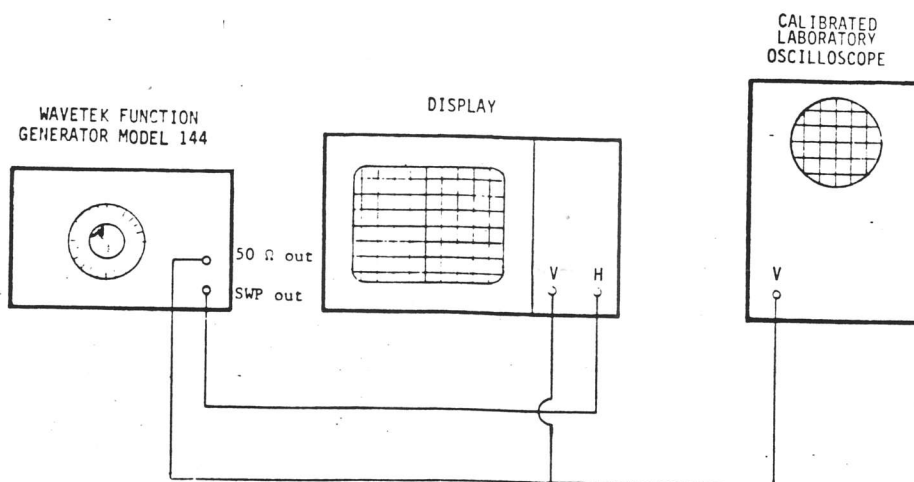

Figure 5-3. Vertical Gain Check Setup
2. Make connections as shown in Figure 5-3.